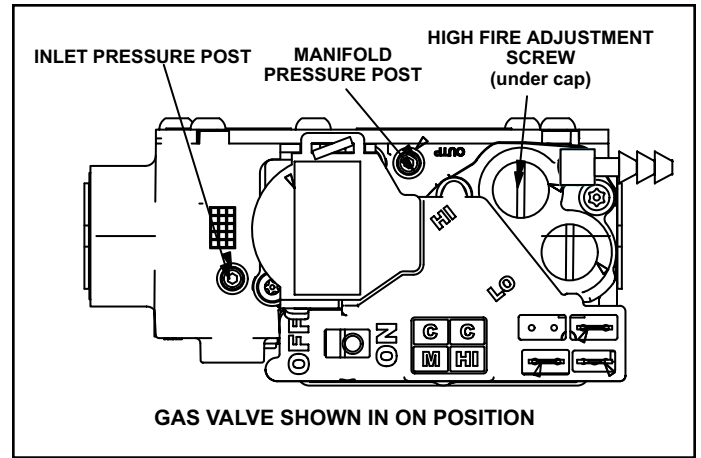

Figure 14. Gas Valve
### Gas Valve Operation (Figure 14)
6. Move gas valve switch to OFF. See Figure 14.
8. Move gas valve switch to ON. See Figure 14.
1. Connect test gauge to manifold pressure post (Figure 14) on gas valve.
4. If necessary, make adjustments. Figure 14 shows location of high fire and low fire adjustment screw.